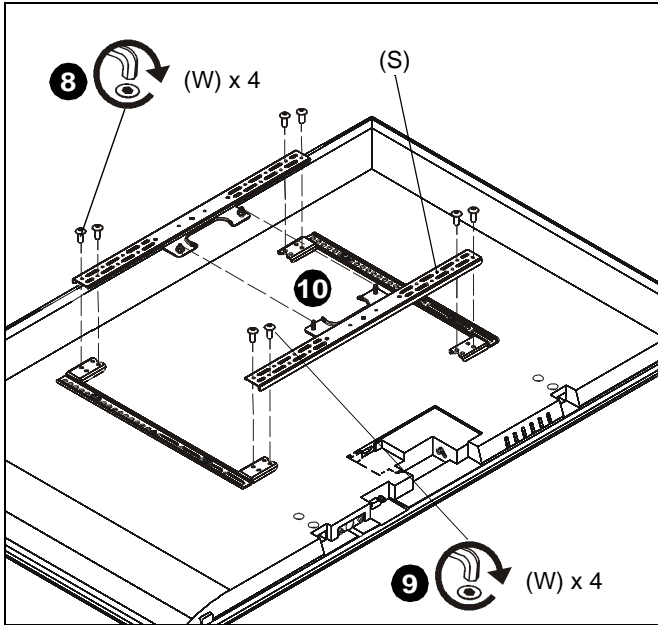

Figure 22
8. Connect top interface support (R) to uprights (P and Q) using four #10-24 x 1/2" button head cap screws (W). (See Figure 22)
9. Connect bottom interface support (S) to uprights (P and Q) using four #10-24 x 1/2" button head cap screws (W). (See Figure 22)
10. When connecting bottom interface support to uprights, make sure that it is aligned vertically with top interface support. (See Figure 22)